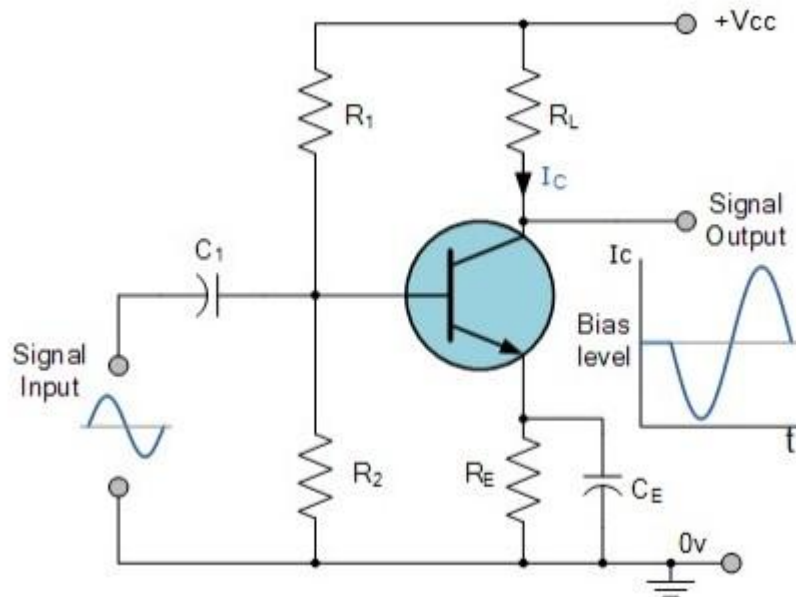

Figure 1: Class A Power Amplifier
1. A single stage Class A power amplifier circuit is shown in Figure 1.